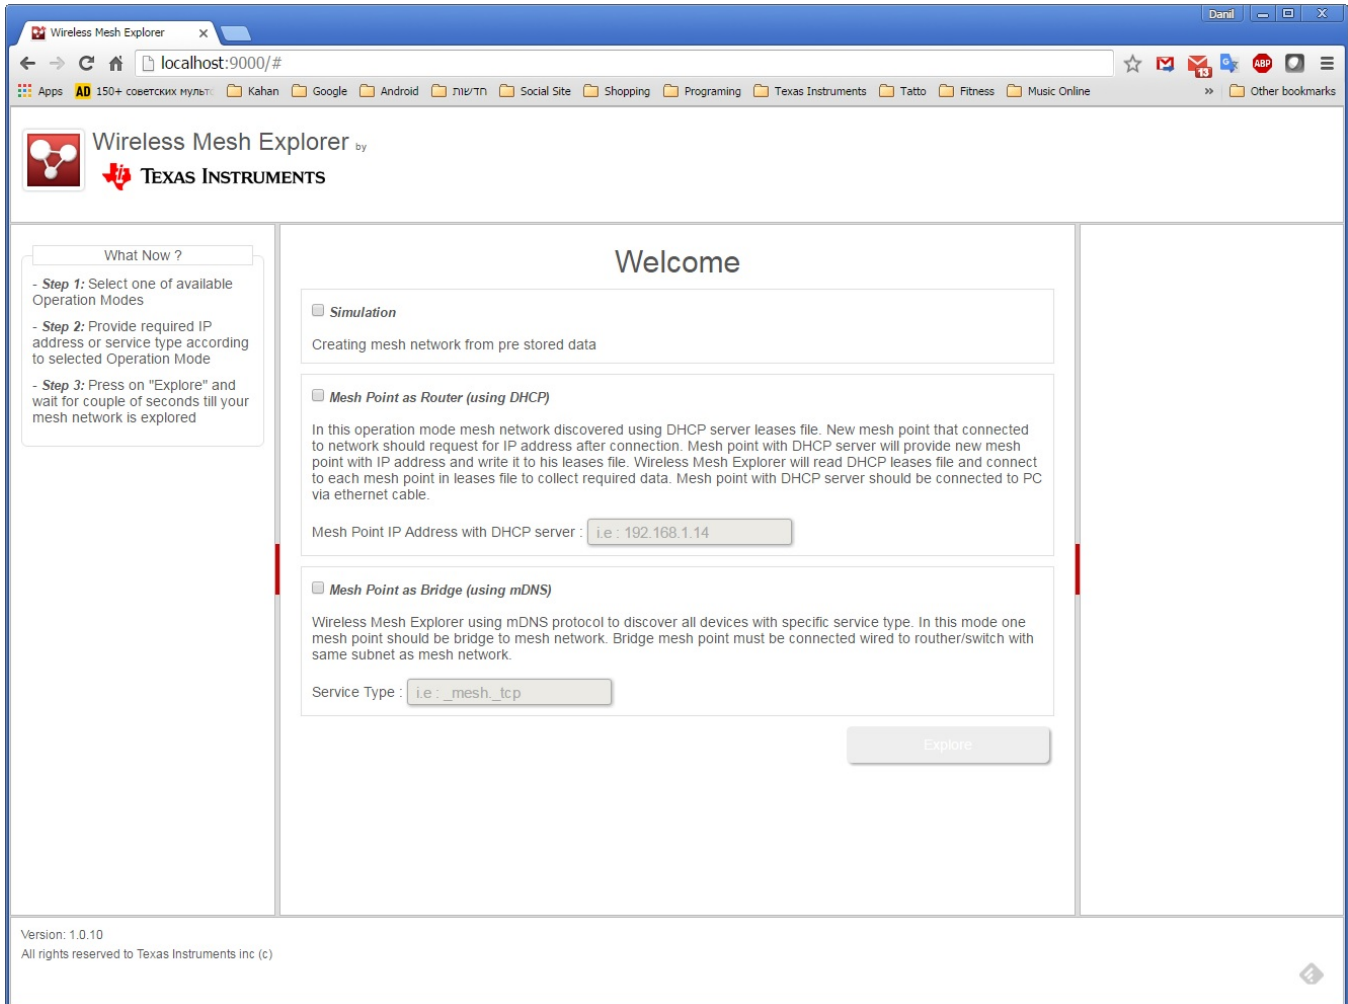

**Figure 1-3. Wireless Mesh Explorer Icon**
3. View the new icon created under Start → All Programs → Texas Instruments → Wireless Mesh Explorer, (see Figure 1-3) the icon is also located on the desktop.